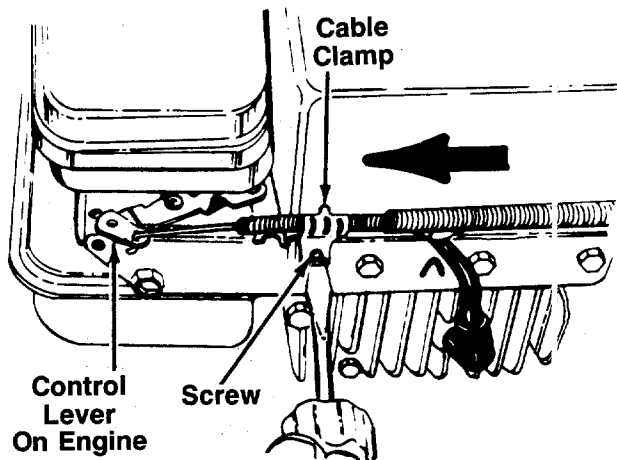

FIGURE 20B.—Models 440R, 442R, 450R and 452R
1. Loosen (do not remove) the screw on the cable clamp so that the cable will move freely under the clamp. See figure 20B.